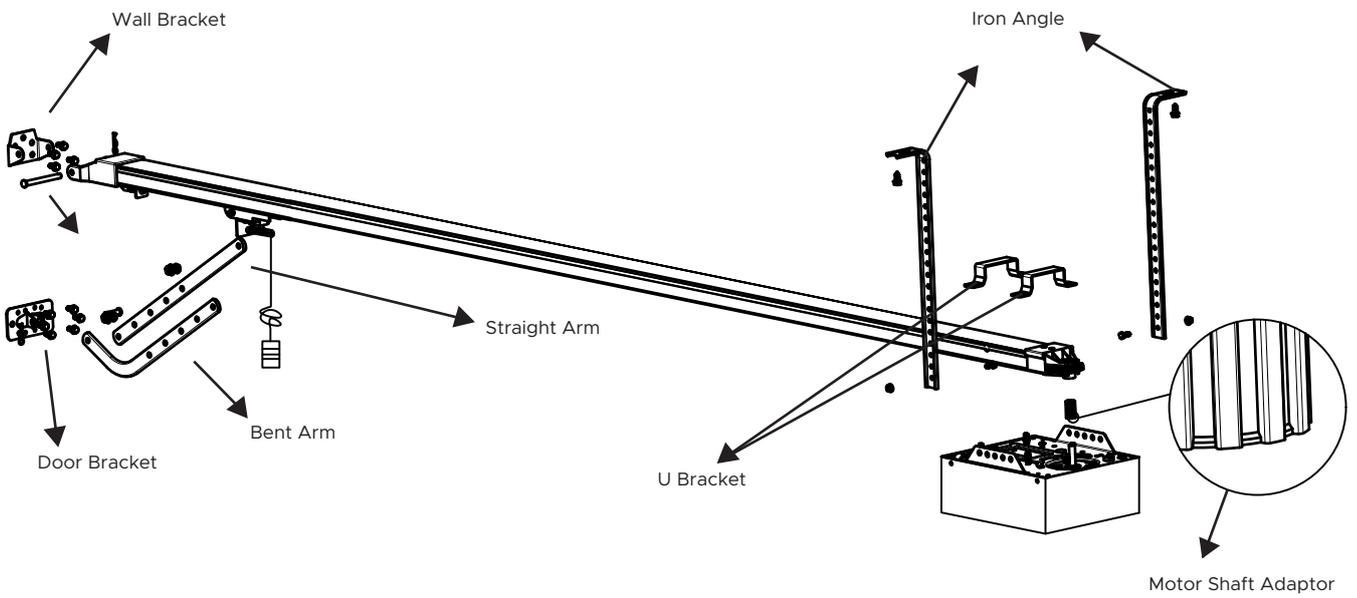

Fig.7
3. Sleeve the motor shaft adapter to the motor shaft according to Fig. 7 **Notice:** the flanged end should be facing down.
7. Install according Fig.7